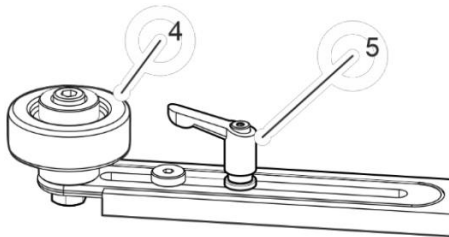

Fig. 26: Support rollers
1. ➤ Release the clamping lever (Fig. 26/5).
2. ➤ Place the drop-down rollers (Fig. 26/4) on the flange wall.
3. ➤ Close the clamping lever (Fig. 26/5).